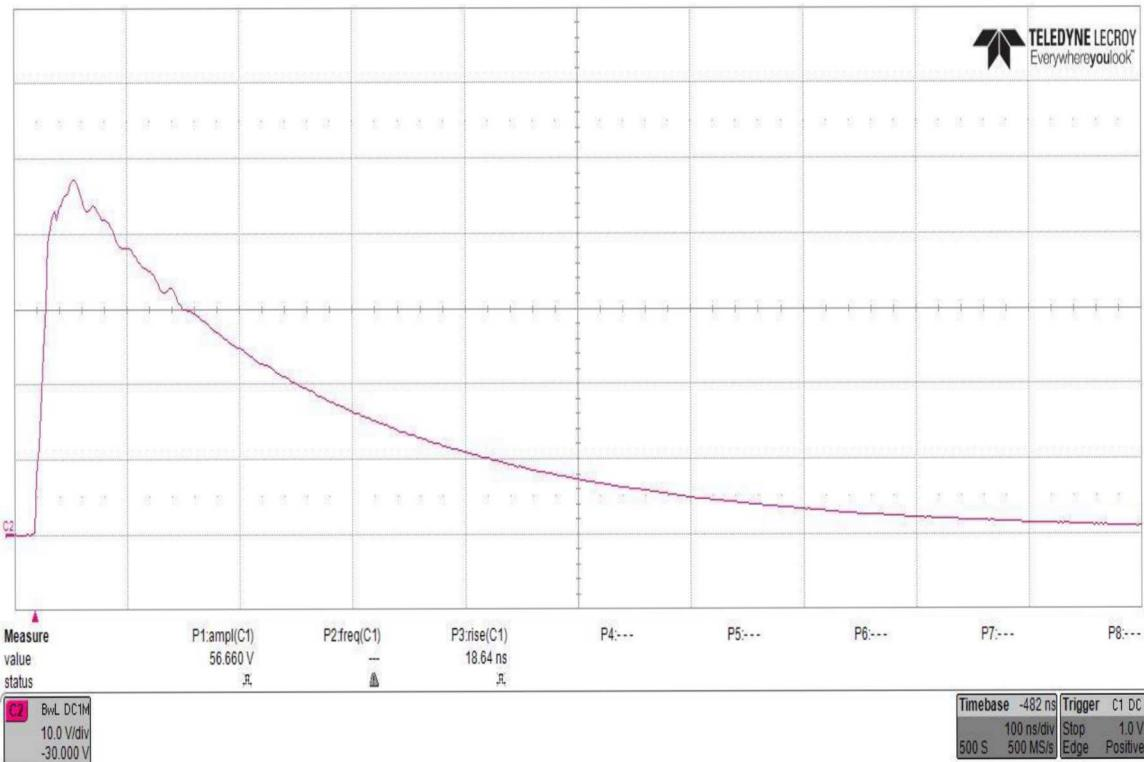

Figure 4. CVR Channel 2 Measurement Example
25. Collect waveforms from 10 separate CH 2 ONLY pulses, saving to a USB stick for each waveform and name the files with the Asset Number, date, and pulse number. See Figure 4.